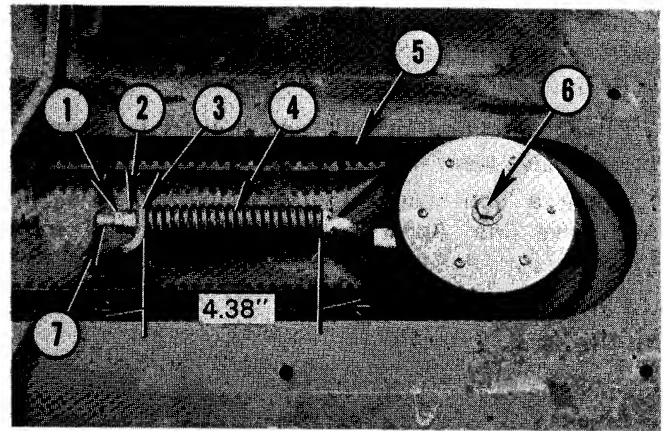

Fig. 43 — Belt Adjustment
1. Remove belt covers and measure length of spring, No. 4, Fig. 43. If measurement is not 4.38" adjustment is necessary.
4. Loosen nuts, Nos. 1 and 2, Fig. 43, completely which will allow springs, No. 4, to move spindles outboard to tension belts.
6. Again check length of spring. If measurement is less than 4.38" remove washer, No. 3, Fig. 43. If measurement is more than 4.38" add washers between spring and anchor bracket until spring length is correct.